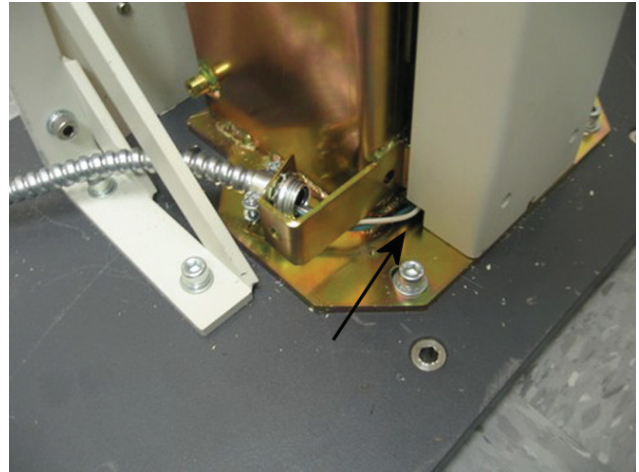

Figure 4: Front cover in place; arrow shows where wiring will route.
6. Attach the front column cover assuring the wiring routes through the opening provided in the bottom left corner (see Figure 4).